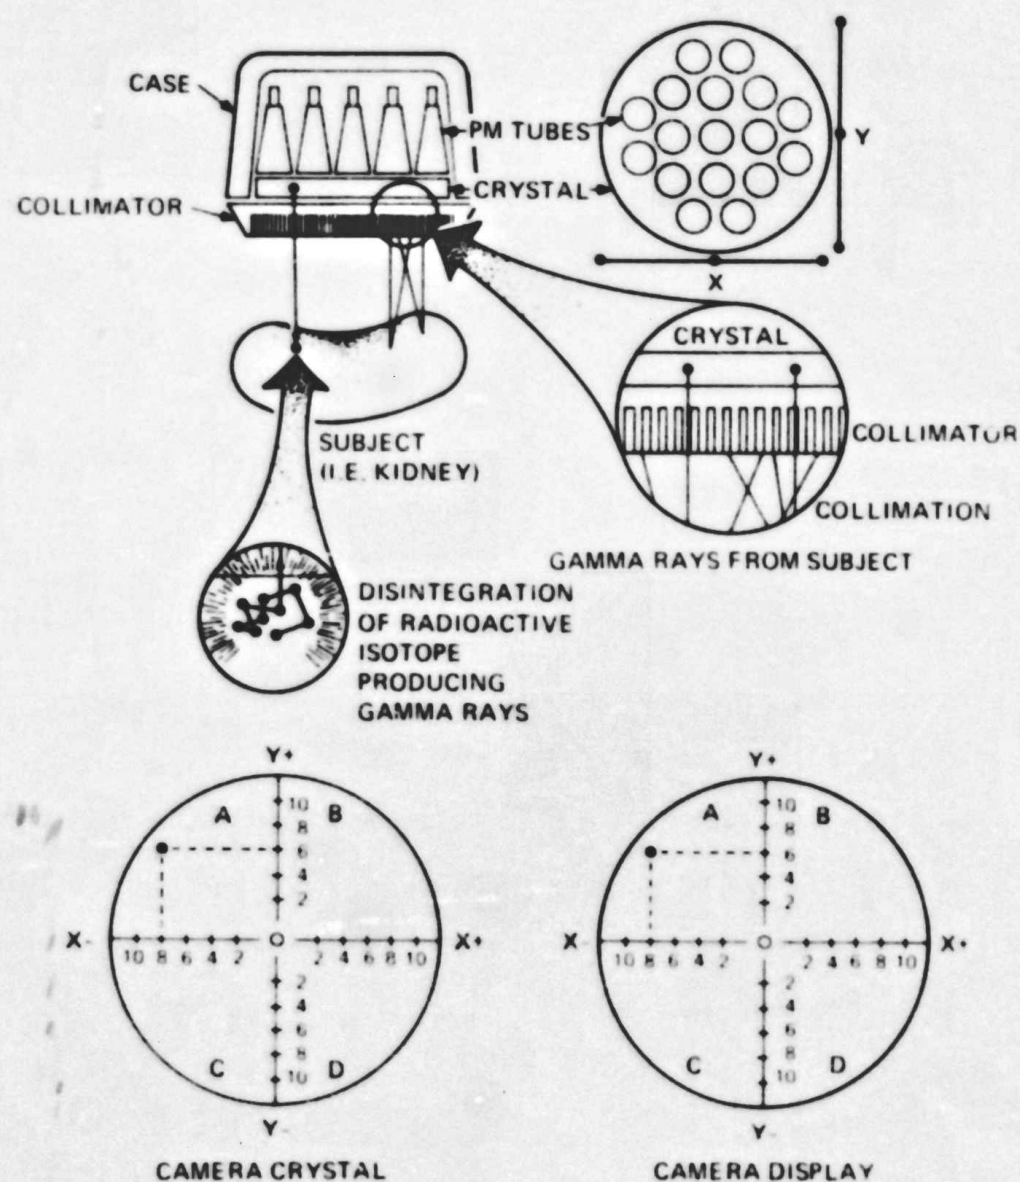

Figure 1-5 Gamma Ray Collimation and Display
- a. Figure 1-5 represents the face of the crystal and the face of a display, both divided into four quadrants. Each quadrant ranges from 0 V to plus 10 V or minus 10 V.